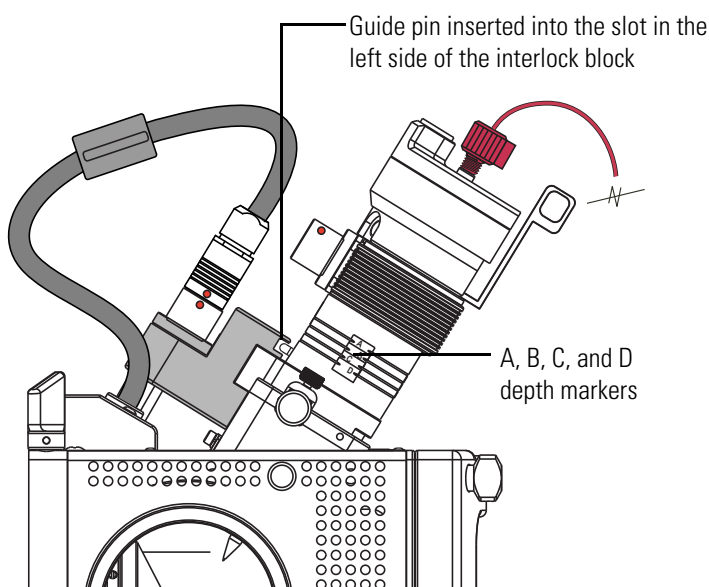

Figure 8-22. Guide pin inserted into the slot
- b. Pull the probe slightly up until the guide pin is level with the slot on the left side of the interlock block. Then turn the probe clockwise until the guide pin meets resistance from the interlock block (Figure 8-22).
- Using the A, B, C, and D markers on the probe as a guide, adjust the probe depth (see Figure 8-22 on page 8-38).